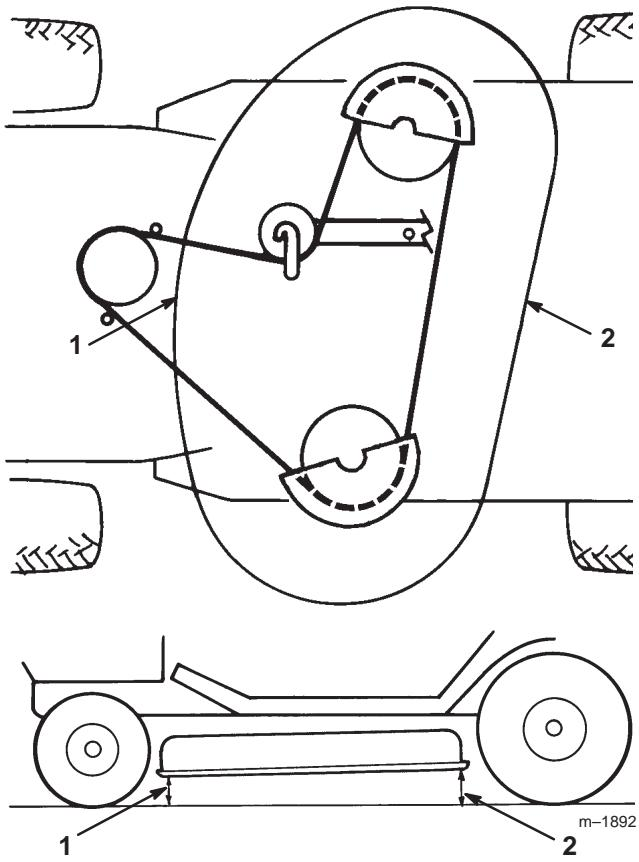

Figure 50
6. Check the front-to-rear slope by measuring between the bottom of the mower (front center and rear center) and the flat surface (Fig. 50). If the front is not within a range of 1/8–3/8 in. (3.5–10.5 mm) lower than the rear, an adjustment is required.
9. After adjusting both of the eye bolt locknuts evenly, check the front-to-rear slope again. Continue adjusting the eye bolts until the front blade tip is 0–3/8 in. (0–9.2 mm) lower than the rear blade tip (Fig. 50).